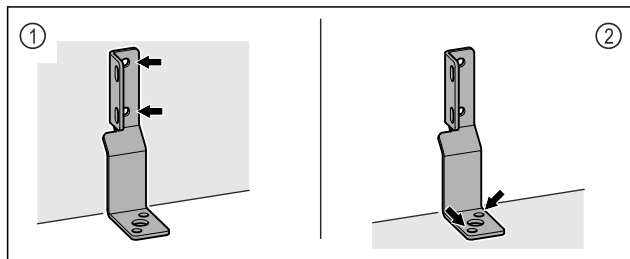

Fig. 45
- Attach bracket to wall Fig. 45 (1) or floor Fig. 45 (2).